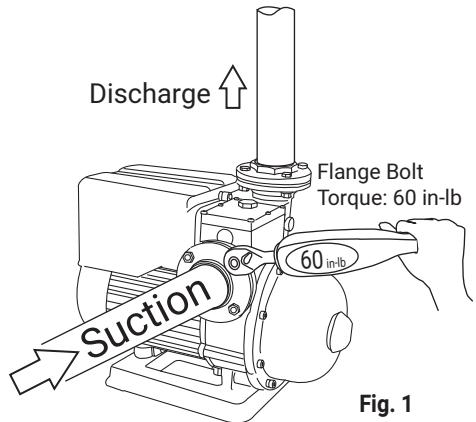

Fig. 1
3. Connect the suction pipe to the side and discharge pipe on the top. (See Fig.1)